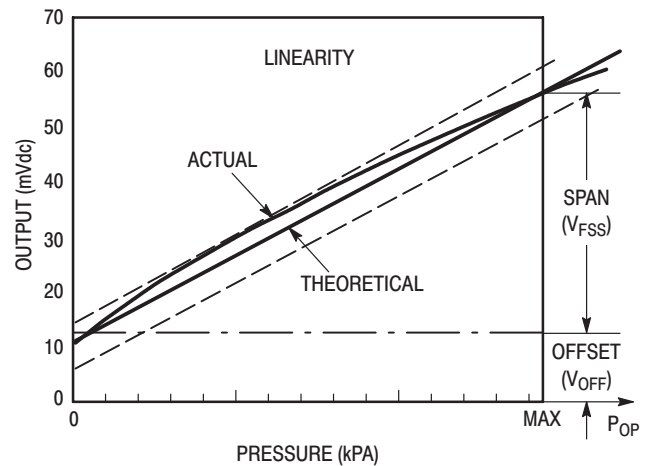

Figure 3. Linearity Specification Comparison
Linearity refers to how well a transducer's output follows the equation: $V_{out} = V_{off} + \text{sensitivity} \times P$ over the operating pressure range (Figure 3). There are two basic methods for calculating nonlinearity: (1) end point straight line fit or (2) a least squares best line fit. While a least squares fit gives the "best case" linearity error (lower numerical value), the calculations required are burdensome.